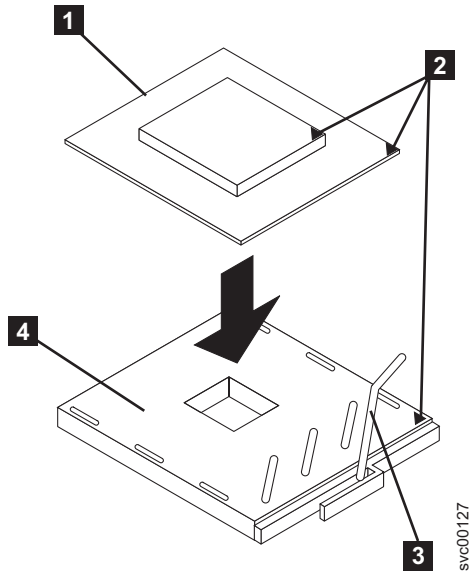

Figure 189. Microprocessor locking lever in open position
3. Rotate the locking lever **3** from the closed position to the open position, as shown in Figure 189.